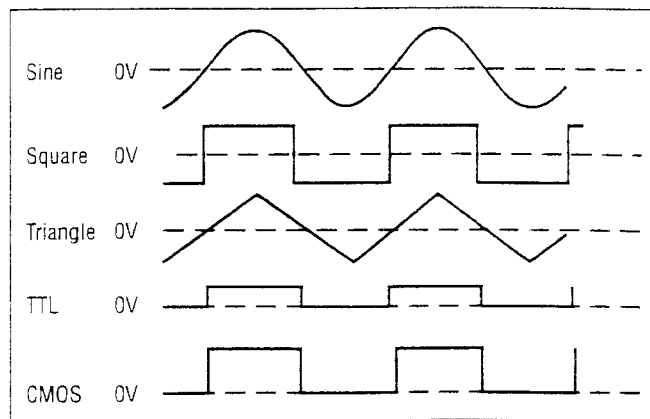

Figure 2. Output Waveform and Phase Relationship
1. Initially, verify that the **DUTY CYCLE** (17), **CMOS LEVEL** (15), **DC OFFSET** (14), **-20dB** (11), and **SWEEP INT/EXT** (12), switches are in the **OUT** position (released). This will produce a symmetrical waveform unaffected by the sweep generator and other controls.
2. Plug the unit into an appropriate power source and turn it on by engaging the **POWER** switch (1).
3. Select the desired waveform (**SINE**, **SQUARE**, or **TRIANGLE**) by engaging one of the **FUNCTION** switches (3). Phase relationships of the waveforms are shown in Fig. 2.
4. Select the frequency of the waveform by depressing one of the **RANGE** switches (2). The output frequency is displayed, along with the appropriate measurement units, **KHz** or **Hz** (23), on the LED display.
5. Rotate the **COARSE** (20) frequency control to quickly set the output frequency to the approximate desired value. The **FINE** (19) frequency control can then be used to easily set the output to the specific desired value. The frequency selected is available at the **OUTPUT** jack (6). In addition, a digital signal, either **TTL** or **CMOS** is